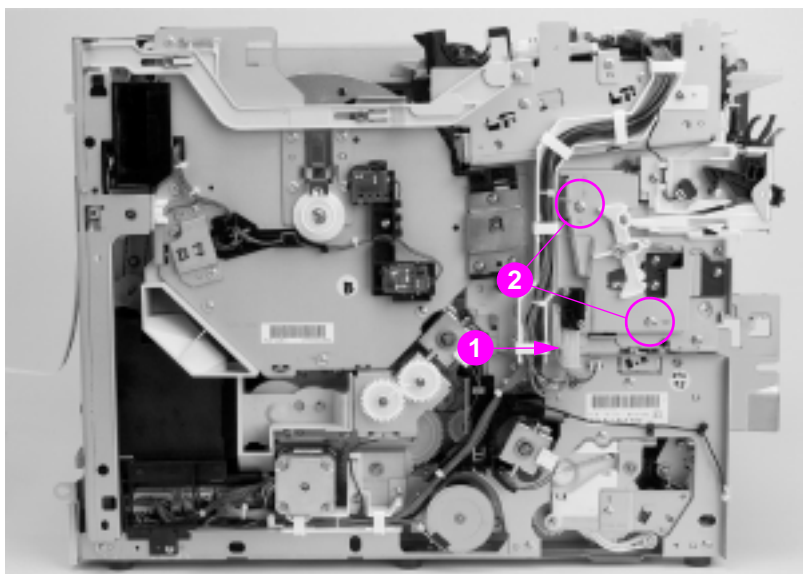

Figure 6-39 Switch plate assembly removal and replacement
- 3 Disconnect the switch shown in Figure 6-39 (callout 1).